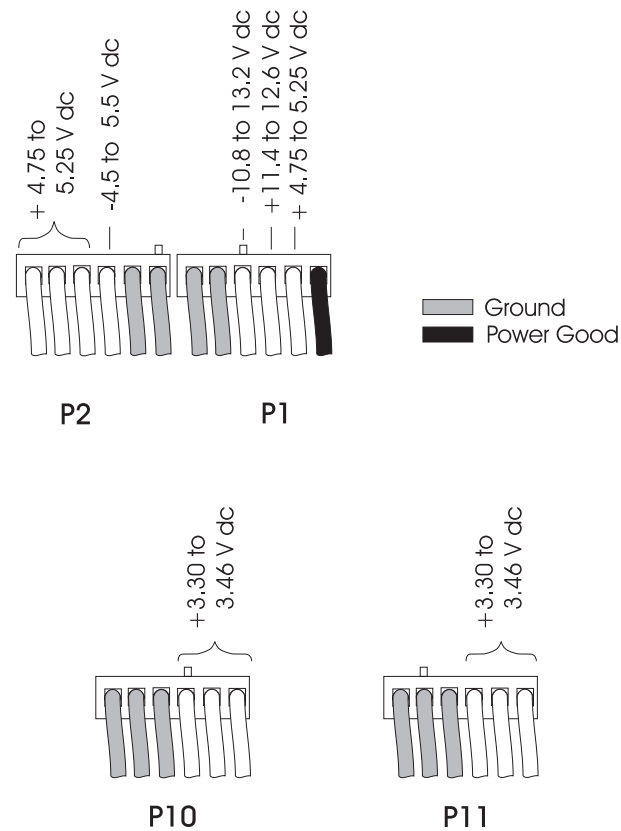

Figure 7-1. AC Power Supply Voltages
- For ac power supply voltages, see Figure 7-1